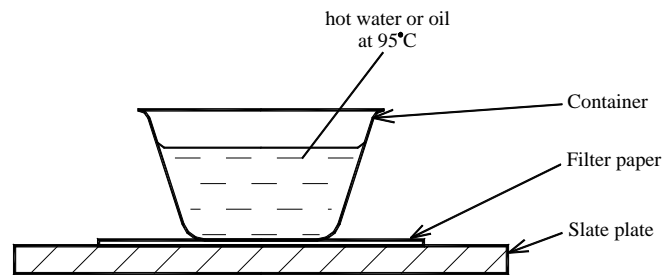

Figure 1: Schematic diagram to show the experimental setup.
4.2 Fill the container up to 80 % of its capacity with hot water of $95\text{ °C} \pm 5\text{ °C}$. Take care not to splash out any water to the filter paper when filling the container (see Figure 1).